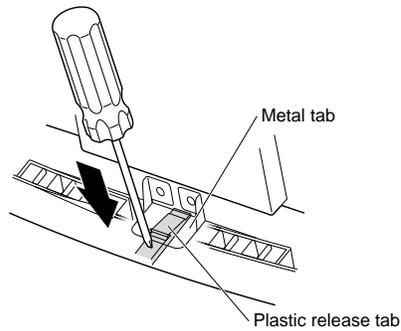

Figure 7-33 Releasing the Plastic Base
2. Use a flat-sided screwdriver to press down on the plastic release tab, as shown in Figure 7-33.